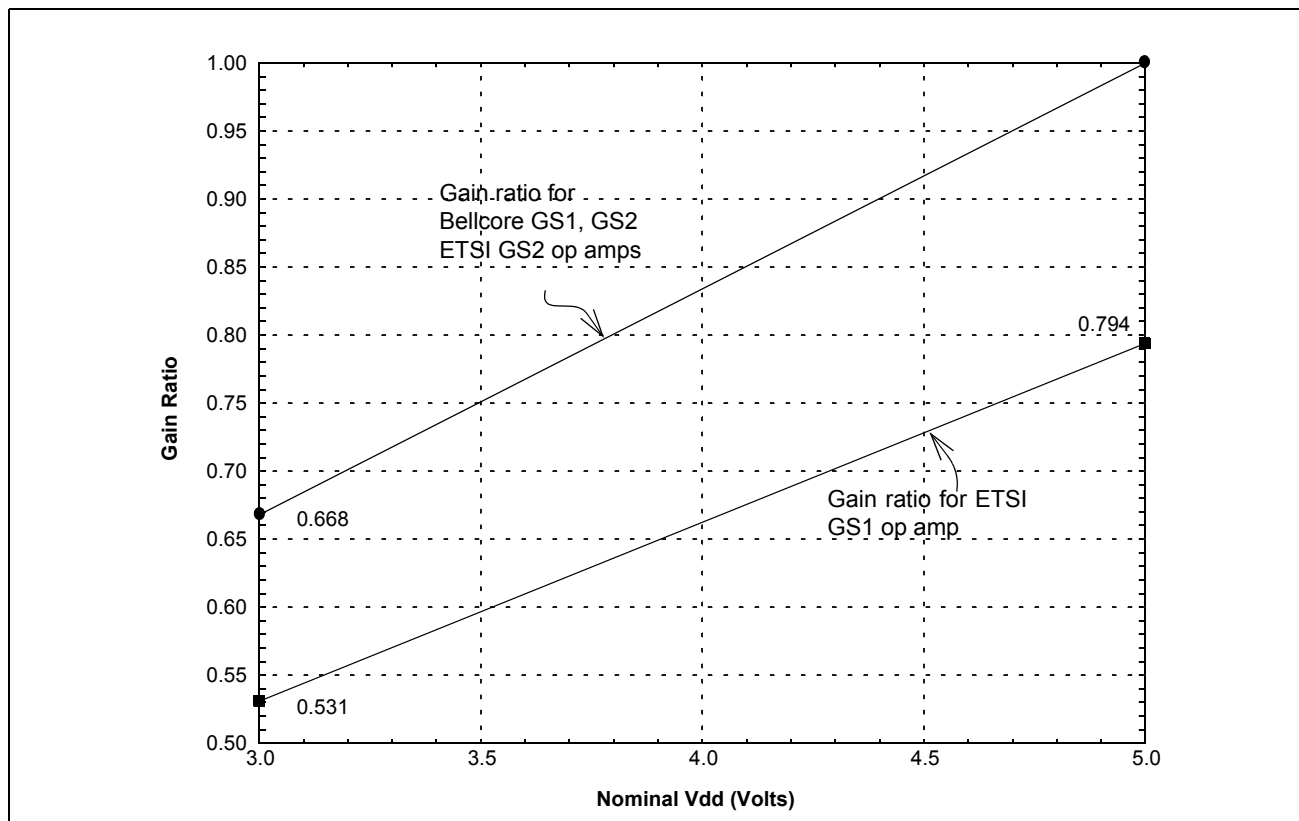

Figure 8 - Gain Ratio as a Function of Nominal Vdd
Gain Setting Resistor Calculation Example for Figure 8:
- For the desired nominal Vdd, use Figure 8 to determine approximate A_v .